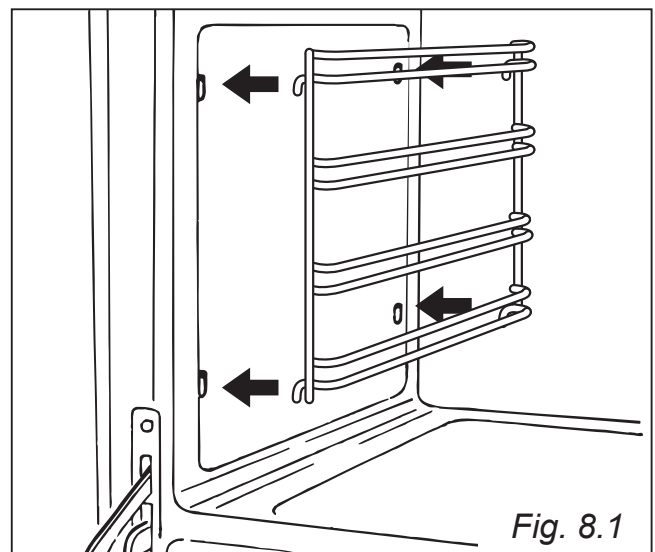

Fig. 8.1
- Fit the side runner frames into the holes on the side walls inside the oven (fig. 8.1).